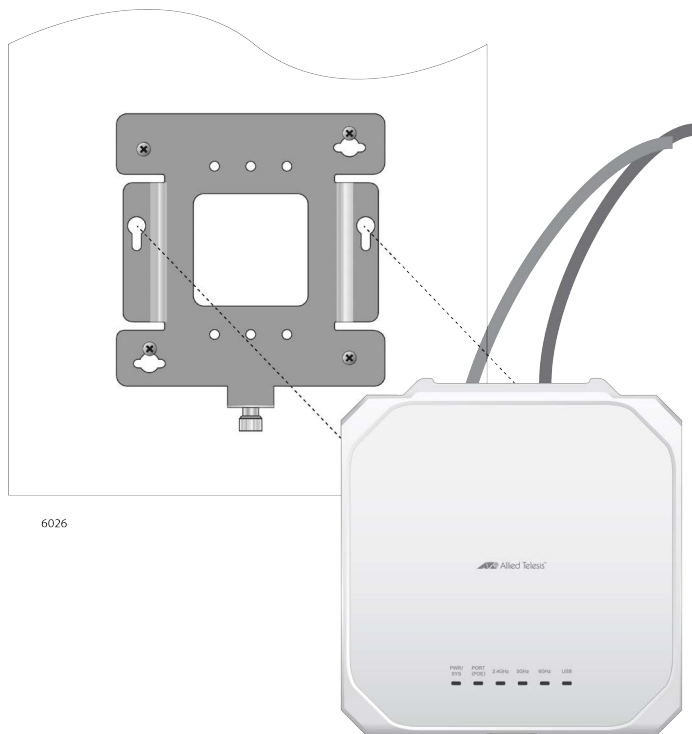

Figure 19. Installing the Access Point on the Mounting Bracket
1. Align the bottom of the access point over the bracket so that the two screws on the bottom of the device fit into the bracket keyholes. Refer to Figure 19. (These are the two access point chassis screws installed in “Pre-fitting the Mounting Bracket on the Access Point” on page 28.)